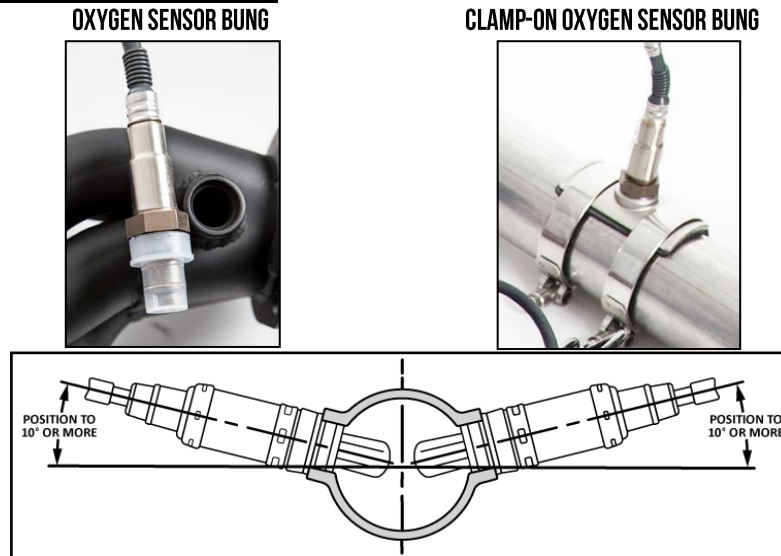

FIGURE 5
- b. It is **CRITICAL** that the oxygen sensor is NOT installed in the bottom of the exhaust tube. This will help prevent condensation in the exhaust tubing from entering the sensor. **Figure 5**